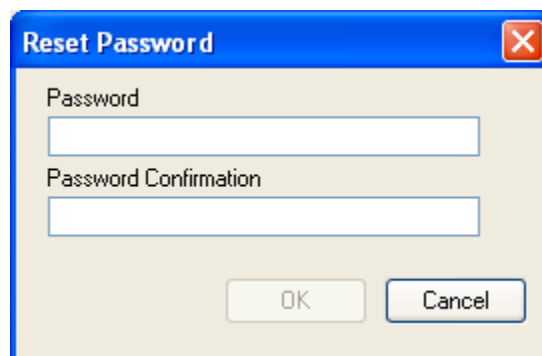

Figure 89 - Reset Password Window
1. Click on the **Reset Password** button. The **Reset Password** window (Figure 89) appears.